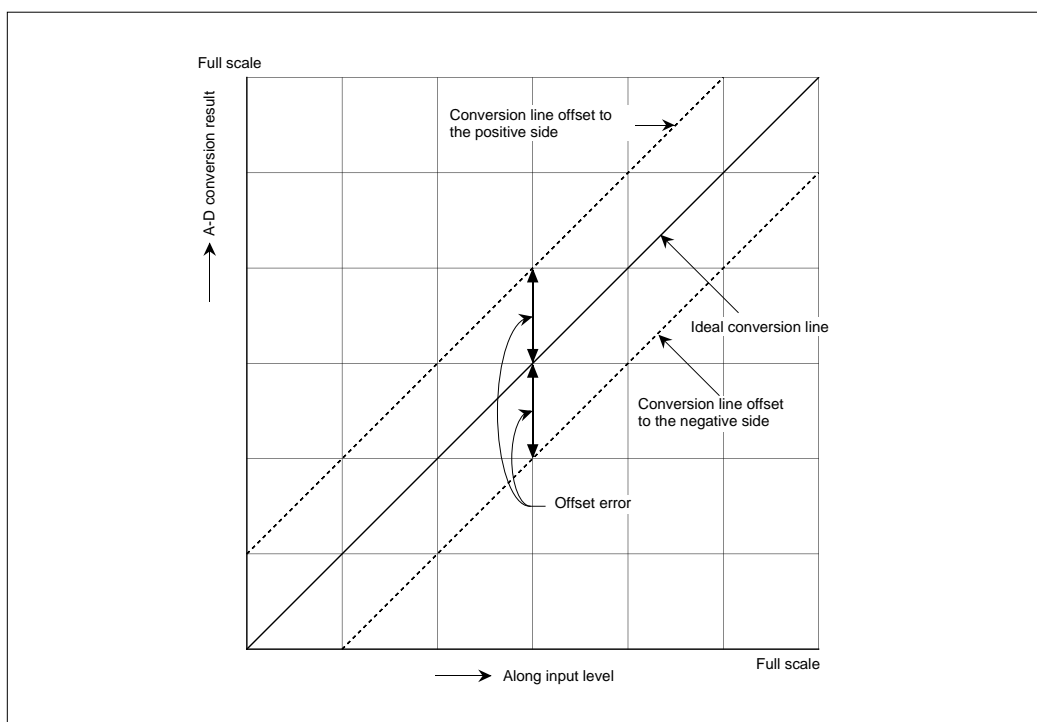

Figure 11.3.6 A-D Converter's Offset Error
- (3) Offset error Refers to an amount of dislocation by which the actual digital output code is dislocated from the digital output code obtained from the A-D converter's ideal conversion line. (Figure 11.3.6)